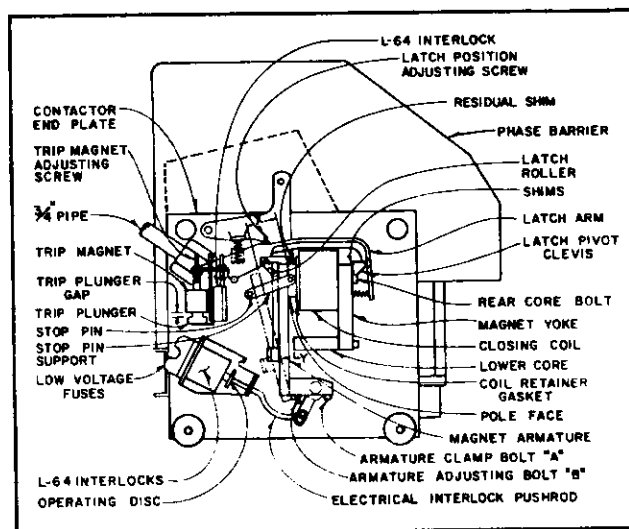

Figure 7
Check, and if necessary adjust contact overtravel. Overtravel is measured at point "X" of Figure 7 at the tip of the magnet armature. With new contacts this dimension
1. Loosen the two bolts at "A" in Figure 7 which clamp magnet armature to shaft.
3. Adjust bolt "B" in Figure 7 as required to obtain the $21/32 \pm 1/64"$ overtravel dimension at point "X". With this adjustment contact open gap should be $1" \pm 1/8"$ measured at the heel of contact faces when the armature is resting against the stop pin.
The previous section dealing with main contact overtravel, also covered the principle closing magnet adjustment since this controls the contact overtravel. Check that the armature seats squarely without hitting the magnet pole face bolts, and that a $3/32$ to $5/32$ gap at point "Y" of Figure 7 has been maintained.
4. Install the new coil on the core assembly being sure the residual shim and coil retainer gasket are mounted as shown in Figure 7.